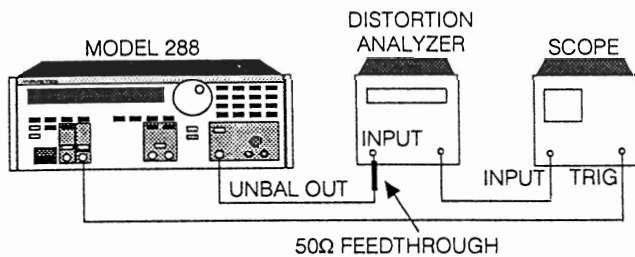

Figure 5-3. Sine Wave Adjust Setup
- Connect the test equipment as shown in figure 5-3.